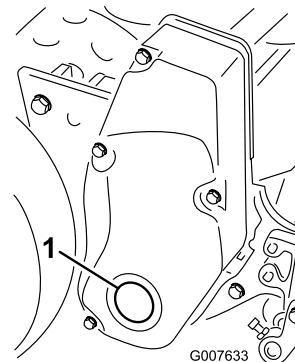

Figure 55
1. Remove the plug in the right reel drive cover (Figure 55).